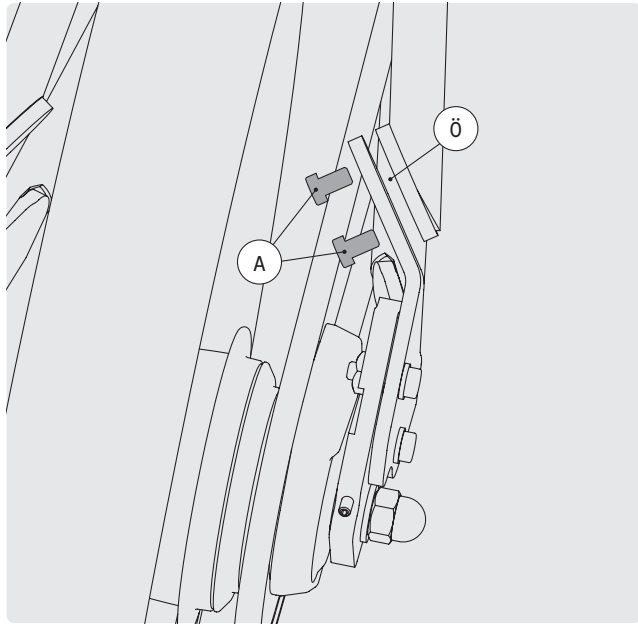

FIG. 49
- 1 Loosen both screws A of the frame lock (Fig. 49).